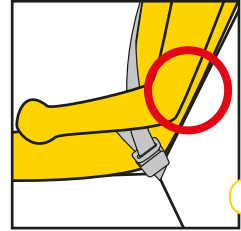

Figure 1
- Step 1:** Can the child sit with their back against the vehicle seat back? (refer Figure 1).